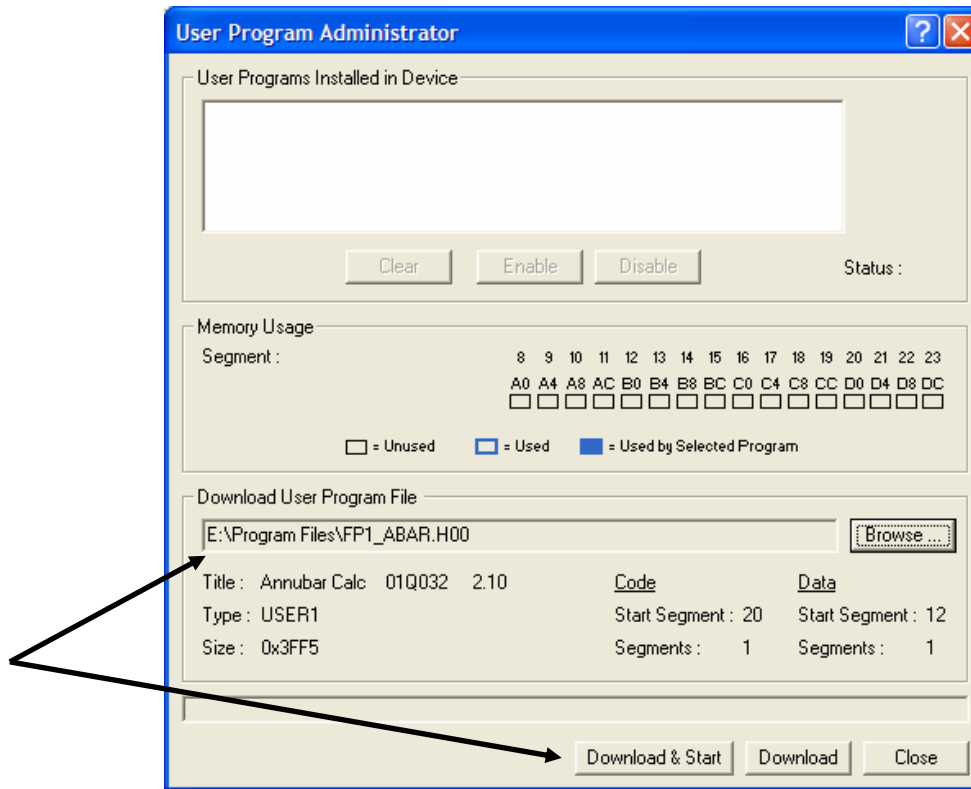

Figure 3. User Program Administrator Screen
Download User Program File	This display-only frame identifies the programs you have selected for download, along with the Code and Data segment information (see Figure 3).
8. Click **Open** to select the program file. The User Program Administrator screen displays. As shown in Figure 3, note that the Download User Program File frame identifies the selected program and that the **Download & Start** button is active: